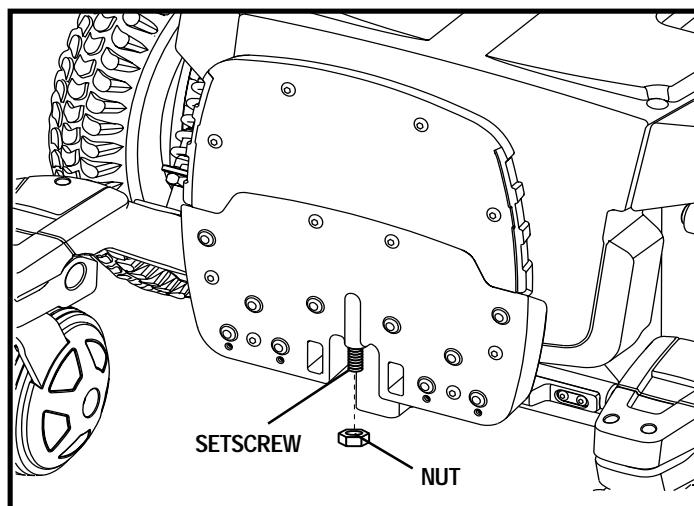

Figure 22. Underside of Foot Platform
1. Flip up the foot platform and locate the setscrew. See figure 22.